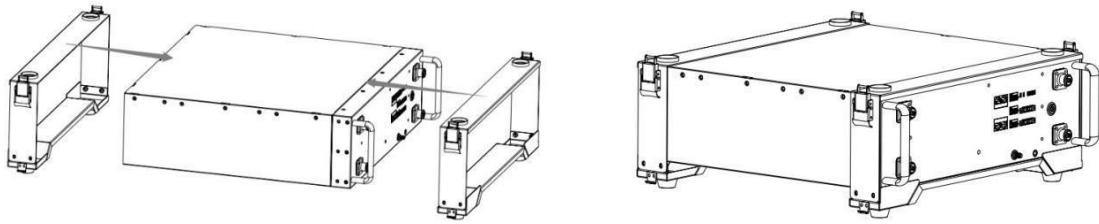

Figure 3: Assembly the bracket with the Battery module
- Assembly the bracket and the battery module as Figure 3;